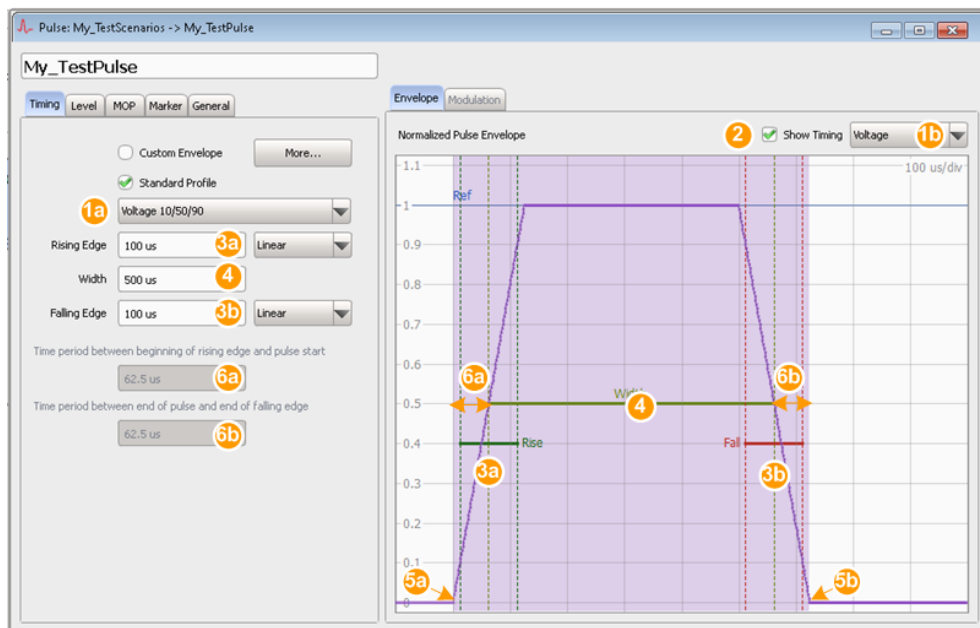

Figure 7-14: Pulse Timing: understanding the displayed information
2. Use the "Envelope Graph" to display the envelope shape. See Figure 7-14.